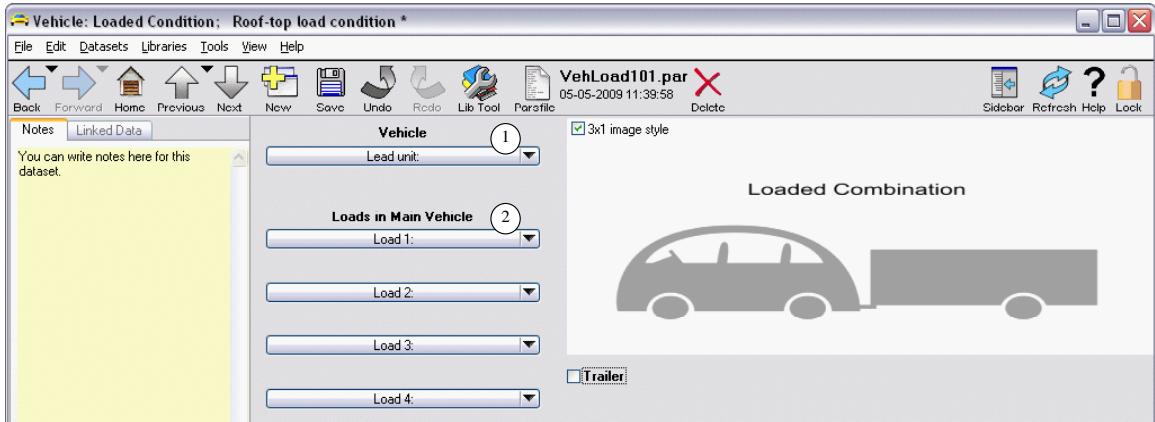

Figure 29. Newly created vehicle dataset.
4. Click the blue button ③ to view the newly created dataset (Figure 29). The screen shows no data values at this time; in the next few steps, you will link to the original vehicle dataset ① and then add a link to a load ②.